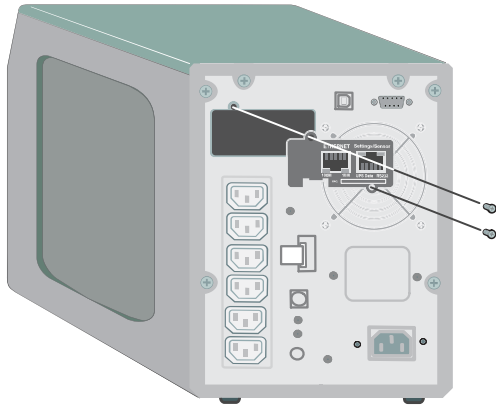

Figure 3. Installing the Card
4. Slide the card into the open slot and secure with the screws removed in Step 1 (see Figure 3).